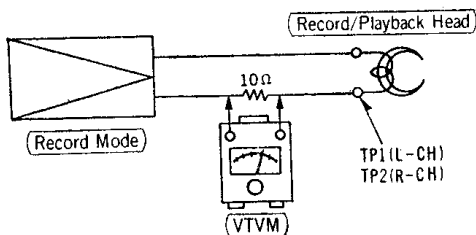

Figure 9
**Record bias current.** Connect VTVM across R6 (100 ohms) in series with record/playback head (Figure 9). Select "RECORD". Adjust L5 (l.h. channel) and then L6 (r.h. channel) for 5.4 to 5.6mV (6.2 to 6.4mV for CRO2 tape).